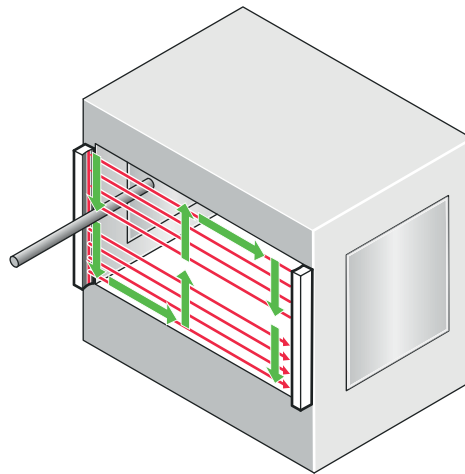

Figure 31: Test rod check: Step 1
1. Move the test rod slowly through the area to be protected (e.g., machine opening), as indicated by the arrow, see figure 31.